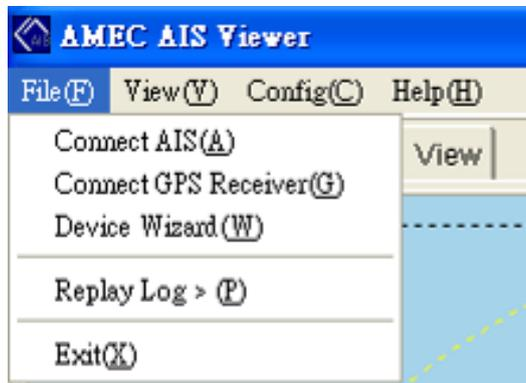

Figure 4-2-1 Quick Start
**Step 1:** Open the viewer and go to “**File**”→ “**Connect AIS**” to set the serial port and baud rate (Refer to figure 4-2-1). Please refer to **Section 4.3.2.1“Connect AIS”** for the details.
**Step 2:** If additional information is required from another GPS, please go to “**File**”→ “**Connect GPS Receiver**” to set the serial port and baud rate for GPS receiver (Refer to figure 4-2-1). Please refer to **Section 4.3.2.1 “Connect GPS Receiver”** for the details.